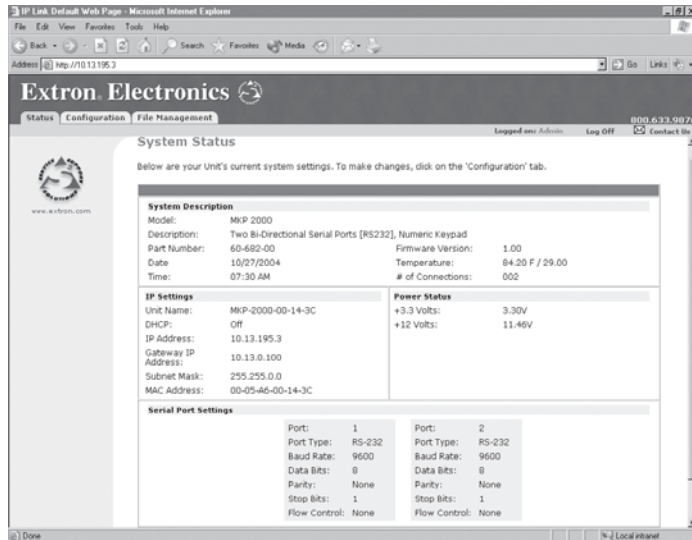

Figure 5-2 — System Status page
- c. **If neither of the above conditions is true**, the MKP downloads the factory-installed default startup page, "nortxe_index.html" (figure 5-2), also known as the System Status page.
The System Status page (figure 5-2) provides an overall view of the status of the MKP, including various IP addresses, the status of the Host and Switch RS-232 ports, and the voltage. The System Status page is the default page that the switcher downloads when you connect to the MKP. Access the System Status page from other MKP HTML web pages by clicking the *Status* tab.